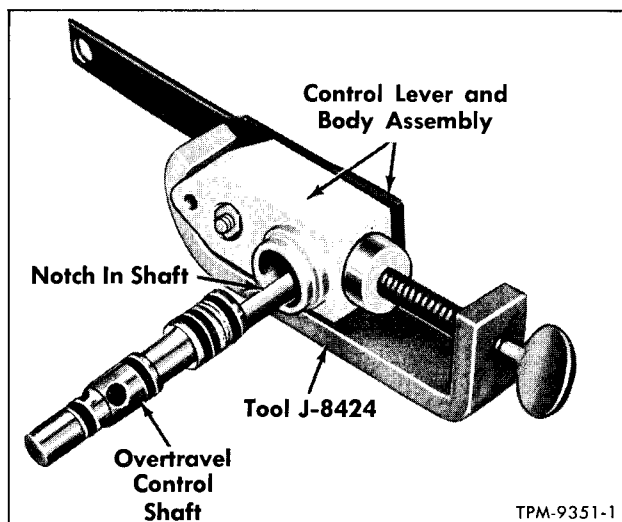

Figure 34—Replacing Overtravel Lever
10. Remove plug retainer (18) from overtravel control body (17). Retainer must be cut off. Use caution to avoid damage to nylon body. Remove overtravel body plug (13).
11. Place forked end of tool J-8424 around shaft in overtravel control body, then tighten clamp screw. See figure 34.
a. Install overtravel lever (20) on control body. Place lever stud nut (19) on stud and tighten to torque listed in "Specifications."
b. Place overtravel lever large spring (15), and overtravel lever small spring (16) inside piston (14). Insert piston in control body (17).
c. Place three new O-rings (10 and 12) on overtravel control shaft (11). Lubricate shaft and O-rings with multi-purpose grease.
d. Position fork of tool (J-8424) so that shaft can be inserted in body. Carefully apply pressure with clamp screw (fig. 34). Compress springs only enough to allow shaft to be inserted. Install overtravel control shaft (11). Rotate shaft so that flat is next to piston.
e. Insert overtravel body plug (13) in bore of body. Force new plug retainer (18) in position over nylon pivot and body plug (13).
f. Place new overtravel control body seal (9) on shoulder of body. Slide overtravel assembly